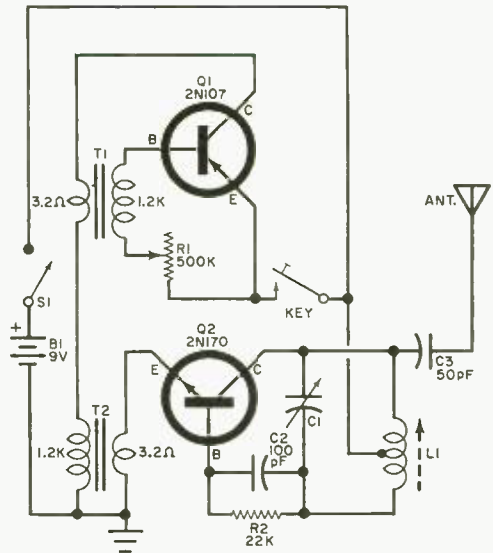

Fig. 1. This wireless CPO, suggested by Alan Brookstone, is a very low power transmitter tuned to the AM BCB. Good for room-to-room CW practice.
**Reader's Circuit.** A prospective Novice can be "on the air" even before he qualifies for his ticket if he assembles the circuit illustrated in Fig. 1, using it in conjunction with a conventional broadcast band receiver. Essentially a home broadcaster (see last month's column) modified by the addition of a built-in tone modulator, the project was submitted by reader, Alan Brookstone (17401 N.W. 19 Ave., Miami, Fla. 33054), who feels that wireless code practice is not only more realistic than that obtained with a conventional code-practice oscillator (CPO), but a lot more fun. The unit has a limited range, in keeping with FCC requirements, but is adequate for room-to-room practice.